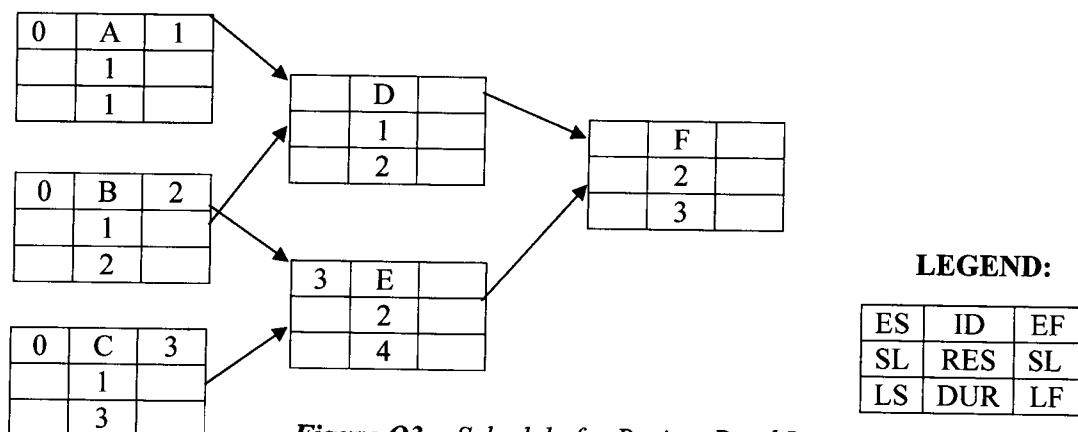

Figure Q3 : Schedule for Project Road I
- (c) You are the project manager for Project Road I, and you have prepared the project schedule involving the use of backhoes as the main resource based on information in **Figure Q3**. The resource scheduling is based on using 3 backhoes. Suddenly, you have a request from the project manager from Project Road II who persistently requests 1 backhoe to be loaned to his project, and you agree
Complete **Figure Q3** for Project Road I in **Appendix III** and prepare a resource schedule using **Jadual S3 (c) (i) dan (ii)** found in **Appendix IV** in order to complete the project in 12 weeks using only 2 backhoes. Activity E dan F requires 2 'backhoes', and activity A, B, C dan D require 1 backhoe each. The process of resource levelling using the parallel method is to be used without activity splitting, multitasking, overtime with the aim of allocating resources effectively without exceeding resource limitations.